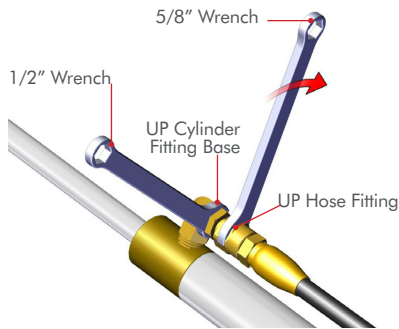

Figure 1
STEP 1: Remove the **Cylinder Bottom** from the **Upper U-Channel** using a 1/2" socket & wrench. **FIG 1 or 2**
STEP 2: Hold **UP Cylinder Fitting Base** with 1/2" Wrench & tighten **UP Hose fitting** 1/4 turn with a 5/8" Wrench. **FIG 1**